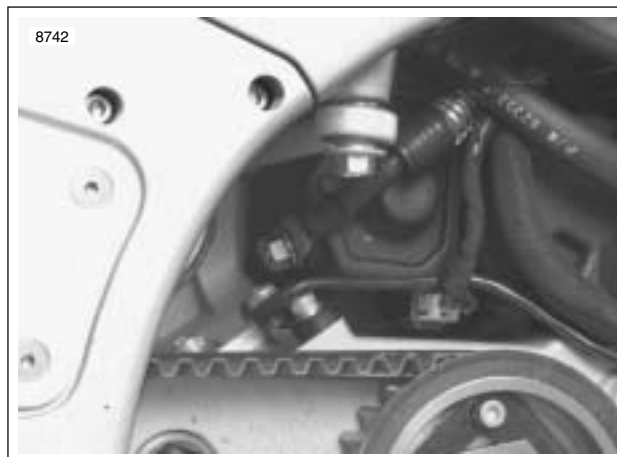

Figure 7-79. Positive Battery Cable at Starter
8. See Figure 7-79. Disconnect positive battery cable from starter.